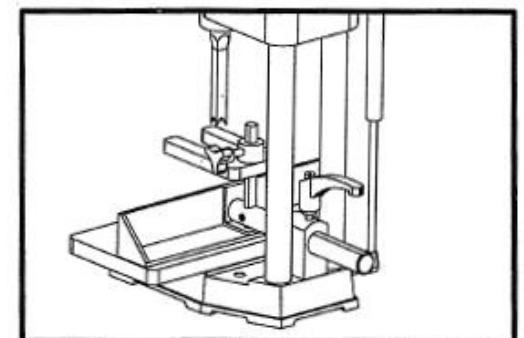

Fig.5
3. Replace the micro-adjustable stop and secure with setscrew. See Fig. 5.